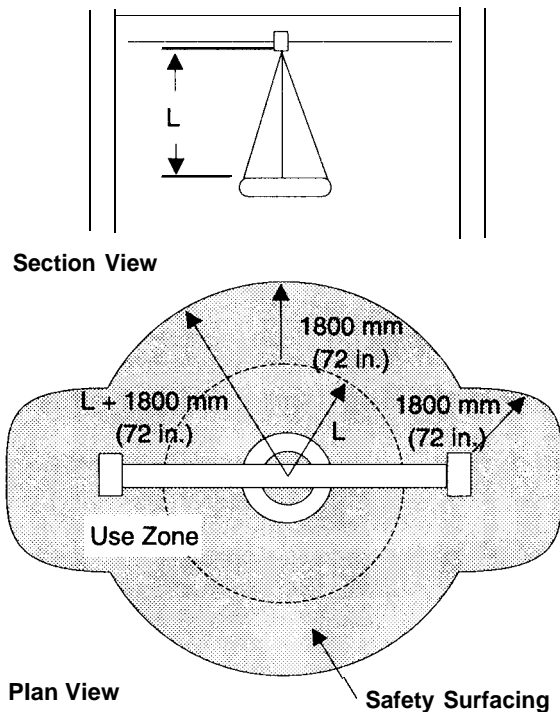

Figure 10-33. Rotating Swing Use Zone.
c. Use Zone. A use zone that equals the vertical distance between the pivot point and the top of the swing seat plus 1800 mm (72 inches) will be provided (fig 10-33) This use zone extends in all directions when measured from the swing seat. A minimum 1800 mm (72 inch) use zone extending in all